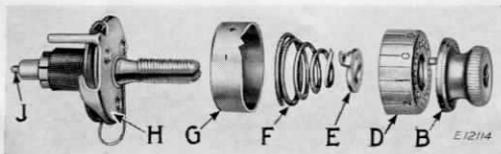

FIG. 23
and remove the thumb nut and flange, the flange stop washer (E, Fig. 23), tension spring (F), indicator